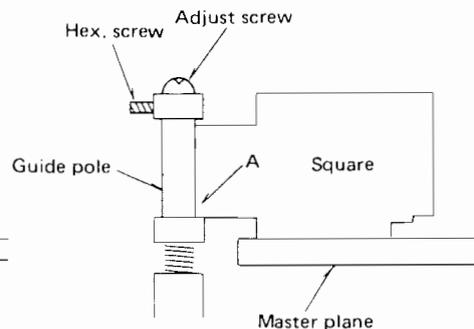

Fig. 1-8
1-6-2 Take-up Guide Pole Height (See Fig. 1-8)
1. Place the square between the collars of the guide pole. If this is not possible loosen the hex screw and adjust the height of the guide pole by turning the \oplus screw on top of the guide pole. Refer to "A" in Fig. 1-8 below.